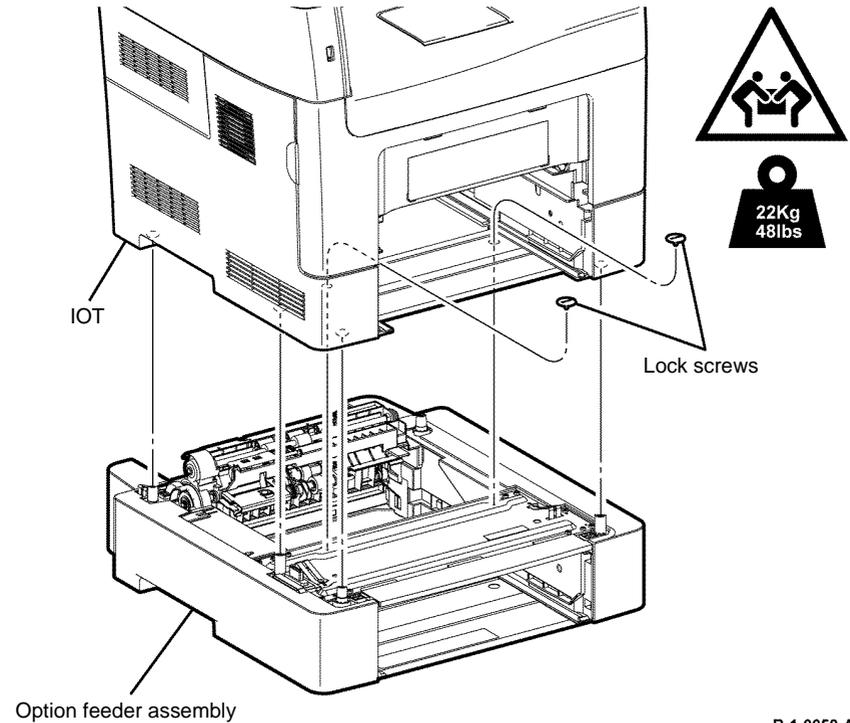

Figure 1 Option feeder assembly removal
5. Release the five bosses on the option feeder assembly from the holes on the IOT, then lift the IOT upward from the option feeder assembly, Figure 1.